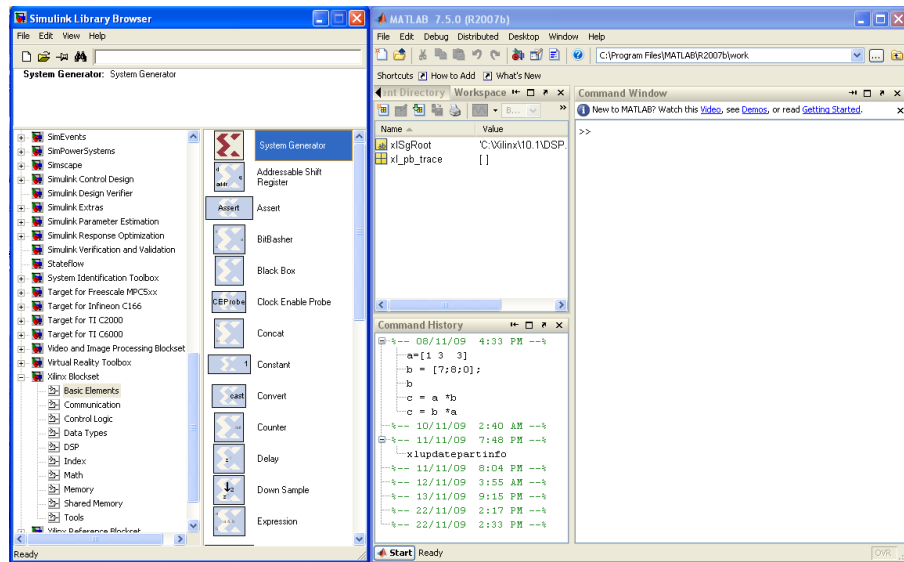

Figure 1: Simulink and MATLAB
- This will start MATLAB and Simulink simulation environment as shown in Figure 1.